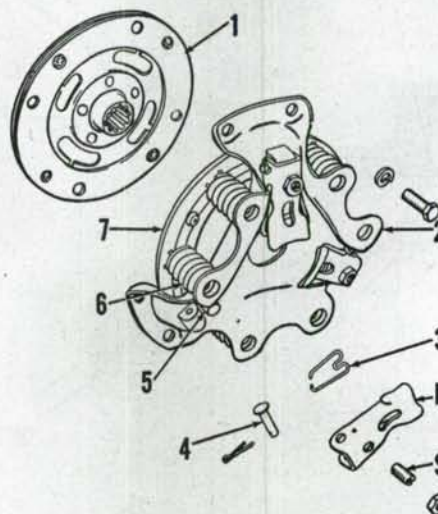

Fig. AC74—Model G clutch is a single plate Rockford 6½ RM unit.
The long hub of the lined plate (1—Fig. AC74) should be installed away from the flywheel. Using 3 pieces of 5/16 inch key stock in lieu of the lined plate, install the unit to the flywheel and check the release lever height. Adjust release levers, by means of the screws (S) in the levers, until a measurement of $1\frac{13}{16} \pm 0.015$ is obtained from friction face of flywheel to release bearing contacting surface of each lever.